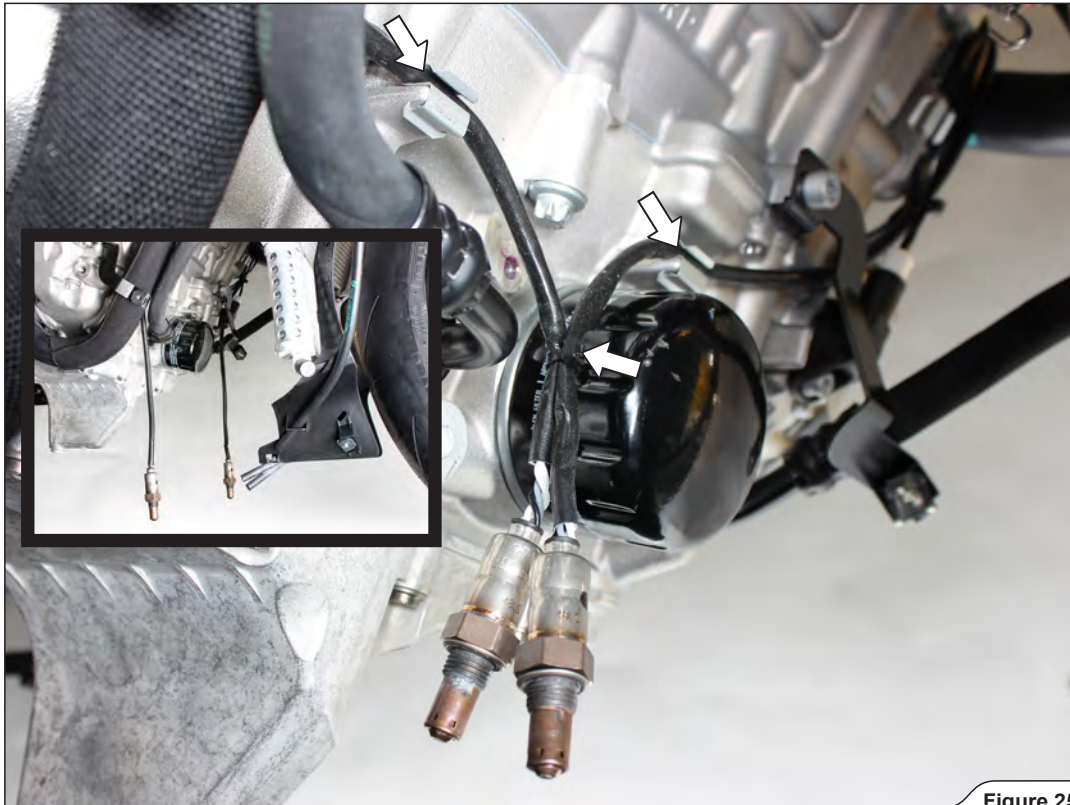

Figure 25
19. Cut the marked zip tie and pull both lambda sensors' cables out of the cable holders (Figure 25).